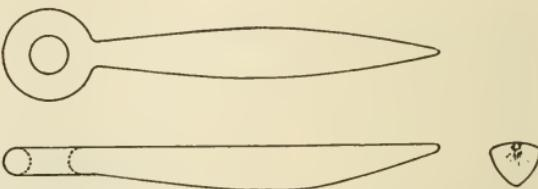

FIG. 193.—SHAPE OF HOOK BEFORE BENDING.
shows the shape required. Begin hammering at the eye and work towards the tip. A hook has a tendency to straighten out when strained, so to prevent this it must be strongest at the bend; therefore at that place the iron is left widest and thickest. The end view in Fig. 193 shows the best way to taper the iron towards the back.
4. Shaping the hook.—The hook should be shaped complete before being bent. Figure 193